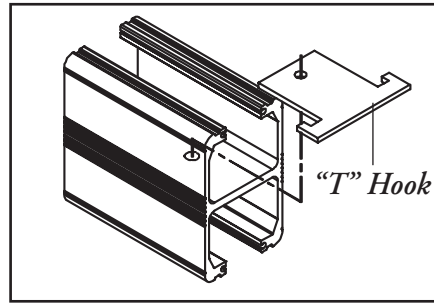

Figure 10
- b. Once you cut the rail, you will need to drill a new hole for the hook (Figure 10). Use the 'jig' or template included. Place the jig in the rail making sure the jig is pushed in as far as possible - "T"-hook should be flush with the side of the rail. Drilling will be easier if jig is not in place. Trace where you want hole, remove jig and drill hole.